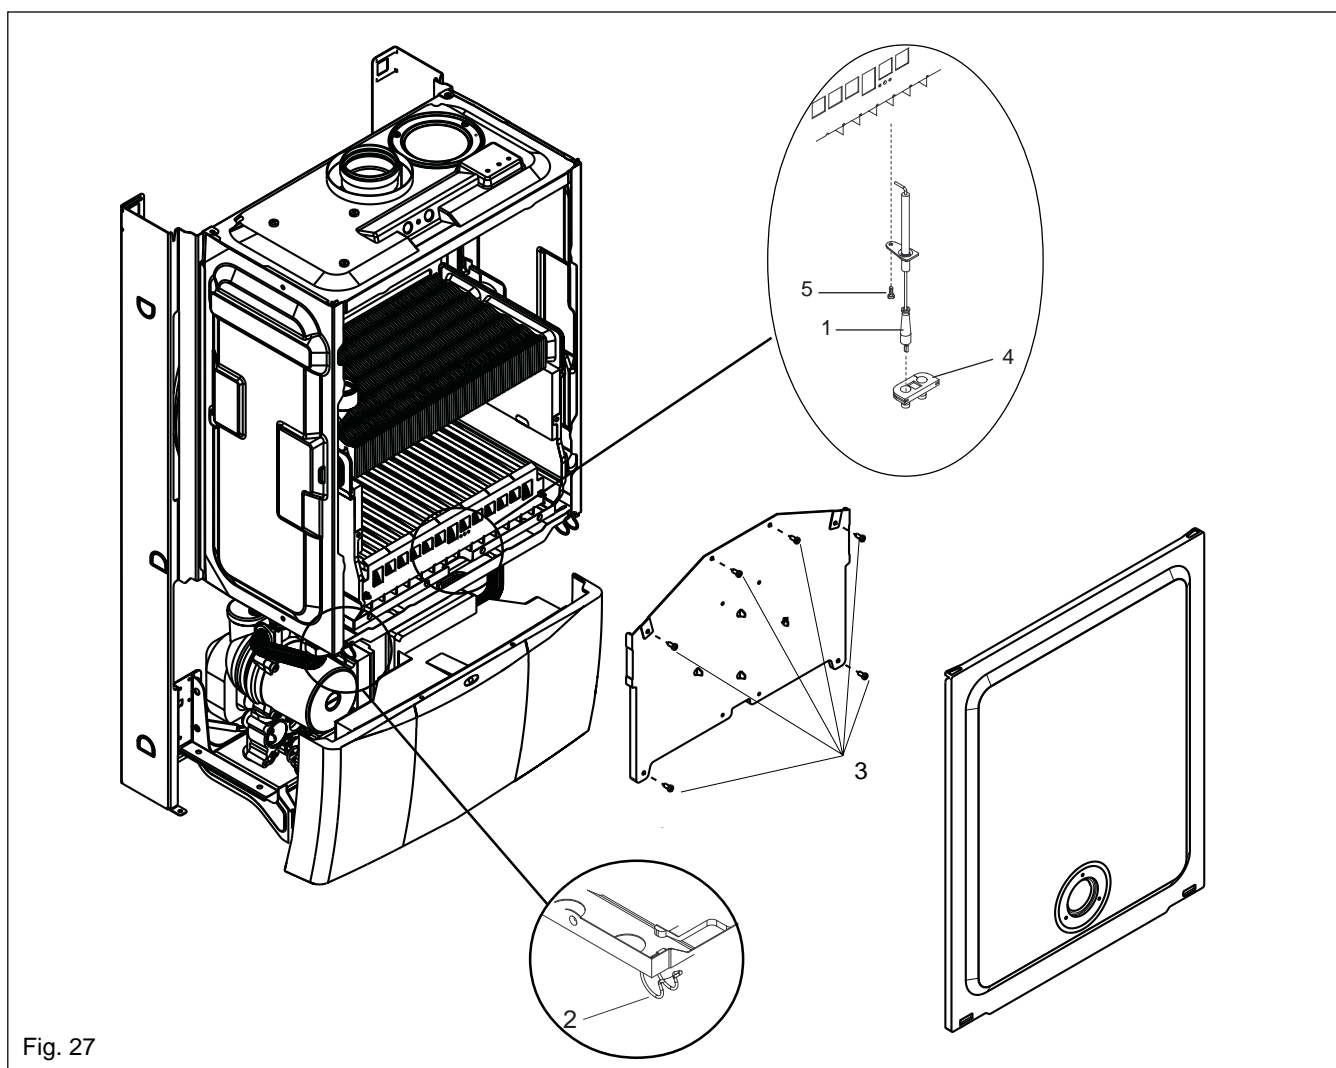

Fig. 27
Fig. 27: locate and remove the four screws which secure the burner in position (1), gently ease the burner out of its location. Once the burner has been removed, the electrode retaining screw can be removed. Locate the burner injectors (2) and remove (if necessary). Replace in the reverse order. Please note, the injector sealing washers (3) must be replaced if the injectors have been removed, ensure all seals are in good condition, taking care to ensure they are replaced correctly. Replace in the reverse order.
6.16 FLUE FAN (see fig. 27 & 28)
Fig. 27: unclip and remove the air chamber cover, gently pull the cover towards you before lifting and disengaging (2). Locate and remove the six screws that secure the front combustion cover, then remove the cover (3).